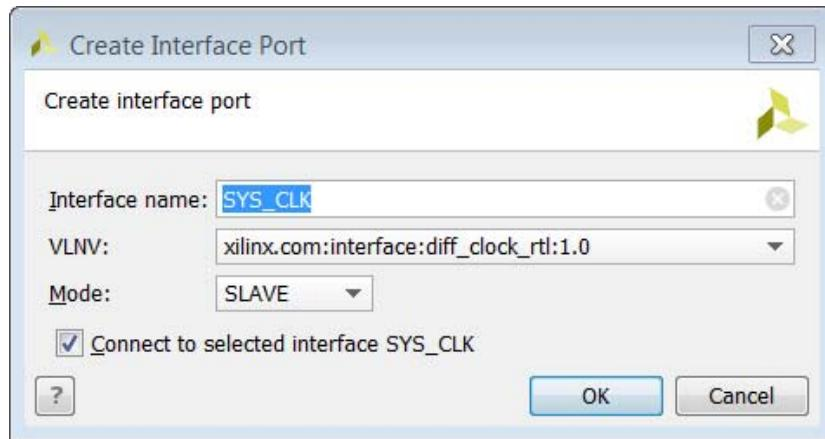

Figure 6-27: Connecting the On-Board Clock Source to the MIG Core
3. In the Create Interface Port dialog box, specify the options as shown in Figure 6-27.